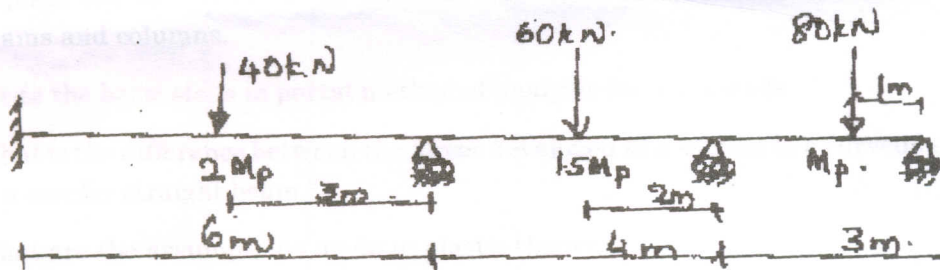

Fig. 6
- (b) Determine the collapse load in the continuous beam shown in Figure 6.